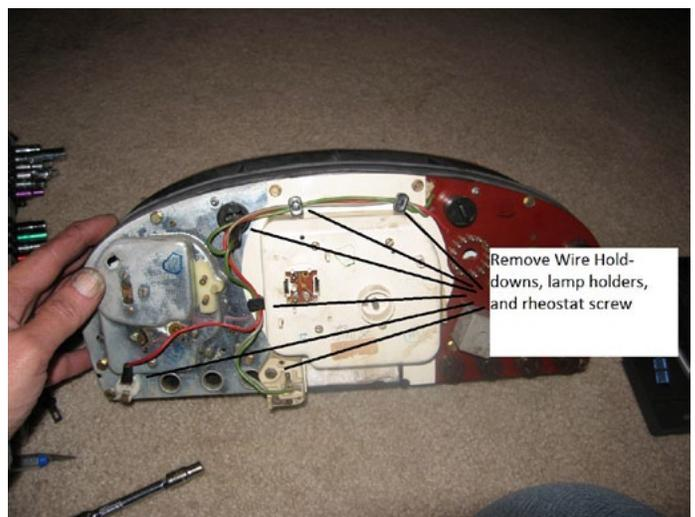

Figure 2
4. push the wiring and lighting, and rheostat aside carefully. Flex the wiring as little as possible. See Figure 2.